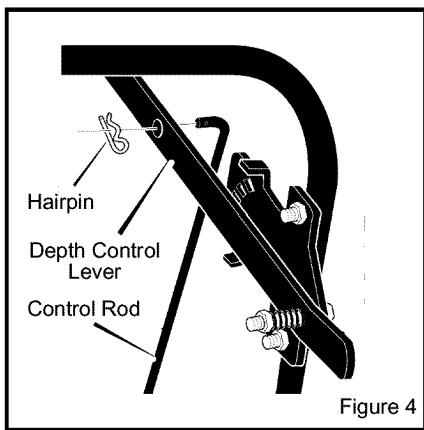

Figure 4
5. Insert the other end of the **control rod**, from **RIGHT** to **LEFT**, through the hole in the **depth control lever** and fasten with **hair pin**. See Figure 4.